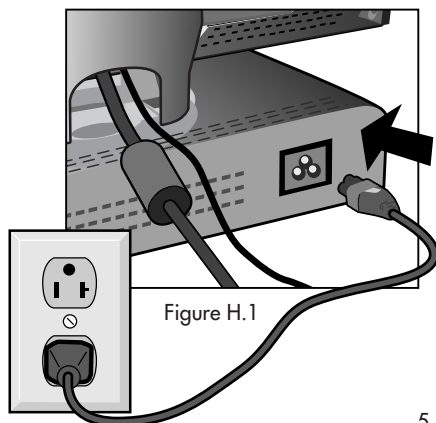

Figure H.1
7. Connect one end of the power cord to the AC Adapter (#A1240T01) on the back of the monitor and the other end to the power outlet (**Figure H.1**).